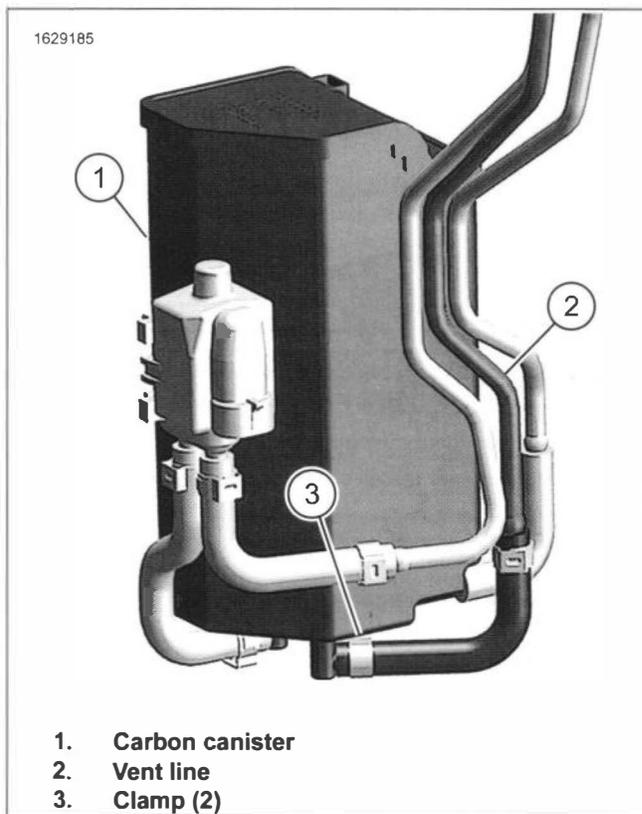

Figure 6-47. Carbon Canister
4. See Figure 6-47. Remove clamp (3). Discard.
5. Remove vapor vent line (2).
5. See Figure 6-47. Install hose on vent line (2).
6. Install hose on carbon canister (1).
7. Install **new** clamps (3).